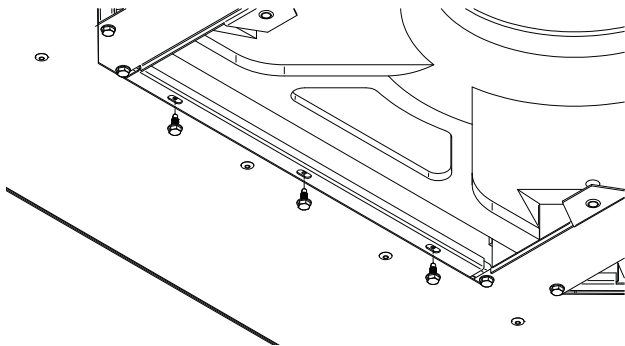

Fig. 64 — Shroud Screw Mounting
7. Using the screws, secure the shroud to the unit casing. See Fig. 64 and 65. For the small casing size, there are 3x mounting screw locations per side/bracket. For the medium casing size, there are 4x mounting screw locations per side/bracket. For the large casing size, there are 5x mounting screw locations on the long side/bracket and 4x mounting screw locations on the short side/bracket.